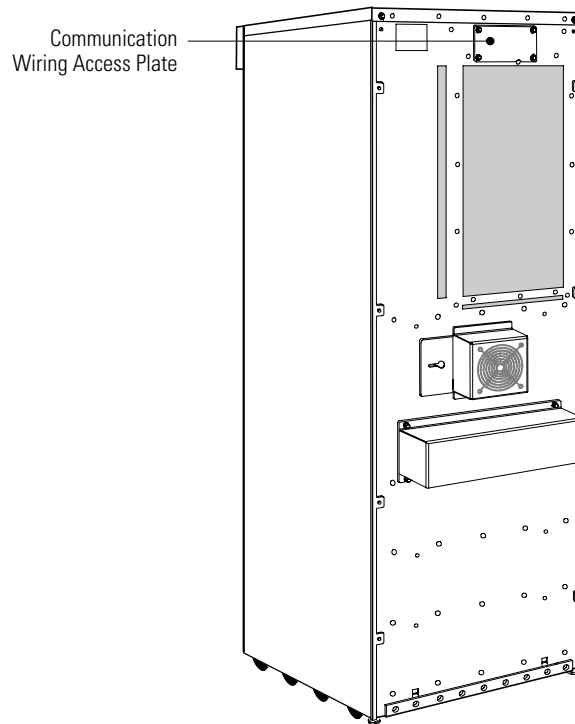

Figure 14. Communication Wiring Access
2. Remove the communication wiring access plate from the UPS rear panel and punch a hole in it using a Greenlee punch or similar device (see Figure 14).